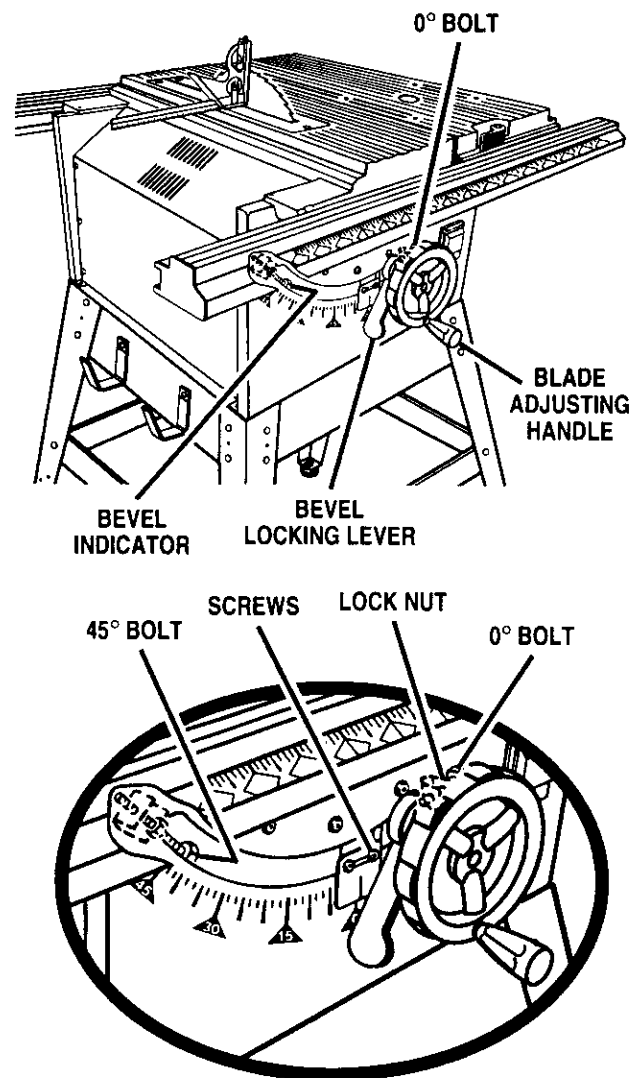

Figure 48
- Push the bevel locking lever to the right. See *Figure 48*. Turn the blade adjusting handle to angle the blade. Use a combination square to check squareness between the blade and saw table.
- If the blade is not perfectly vertical (0 degrees), loosen the lock nut on the 0 degree bolt inside the cabinet, position the blade, adjust the bolt, then retighten lock nut. See *Figure 48, insert*. If the bevel indicator is not at zero, adjust it with the two screws above the slot, beside the blade adjusting handle.
- If the blade is not an exact 45 degrees, loosen the lock nut on the 45 degree bolt inside the cabinet, position the blade, adjust the bolt, then retighten lock nut. See *Figure 48, insert*.